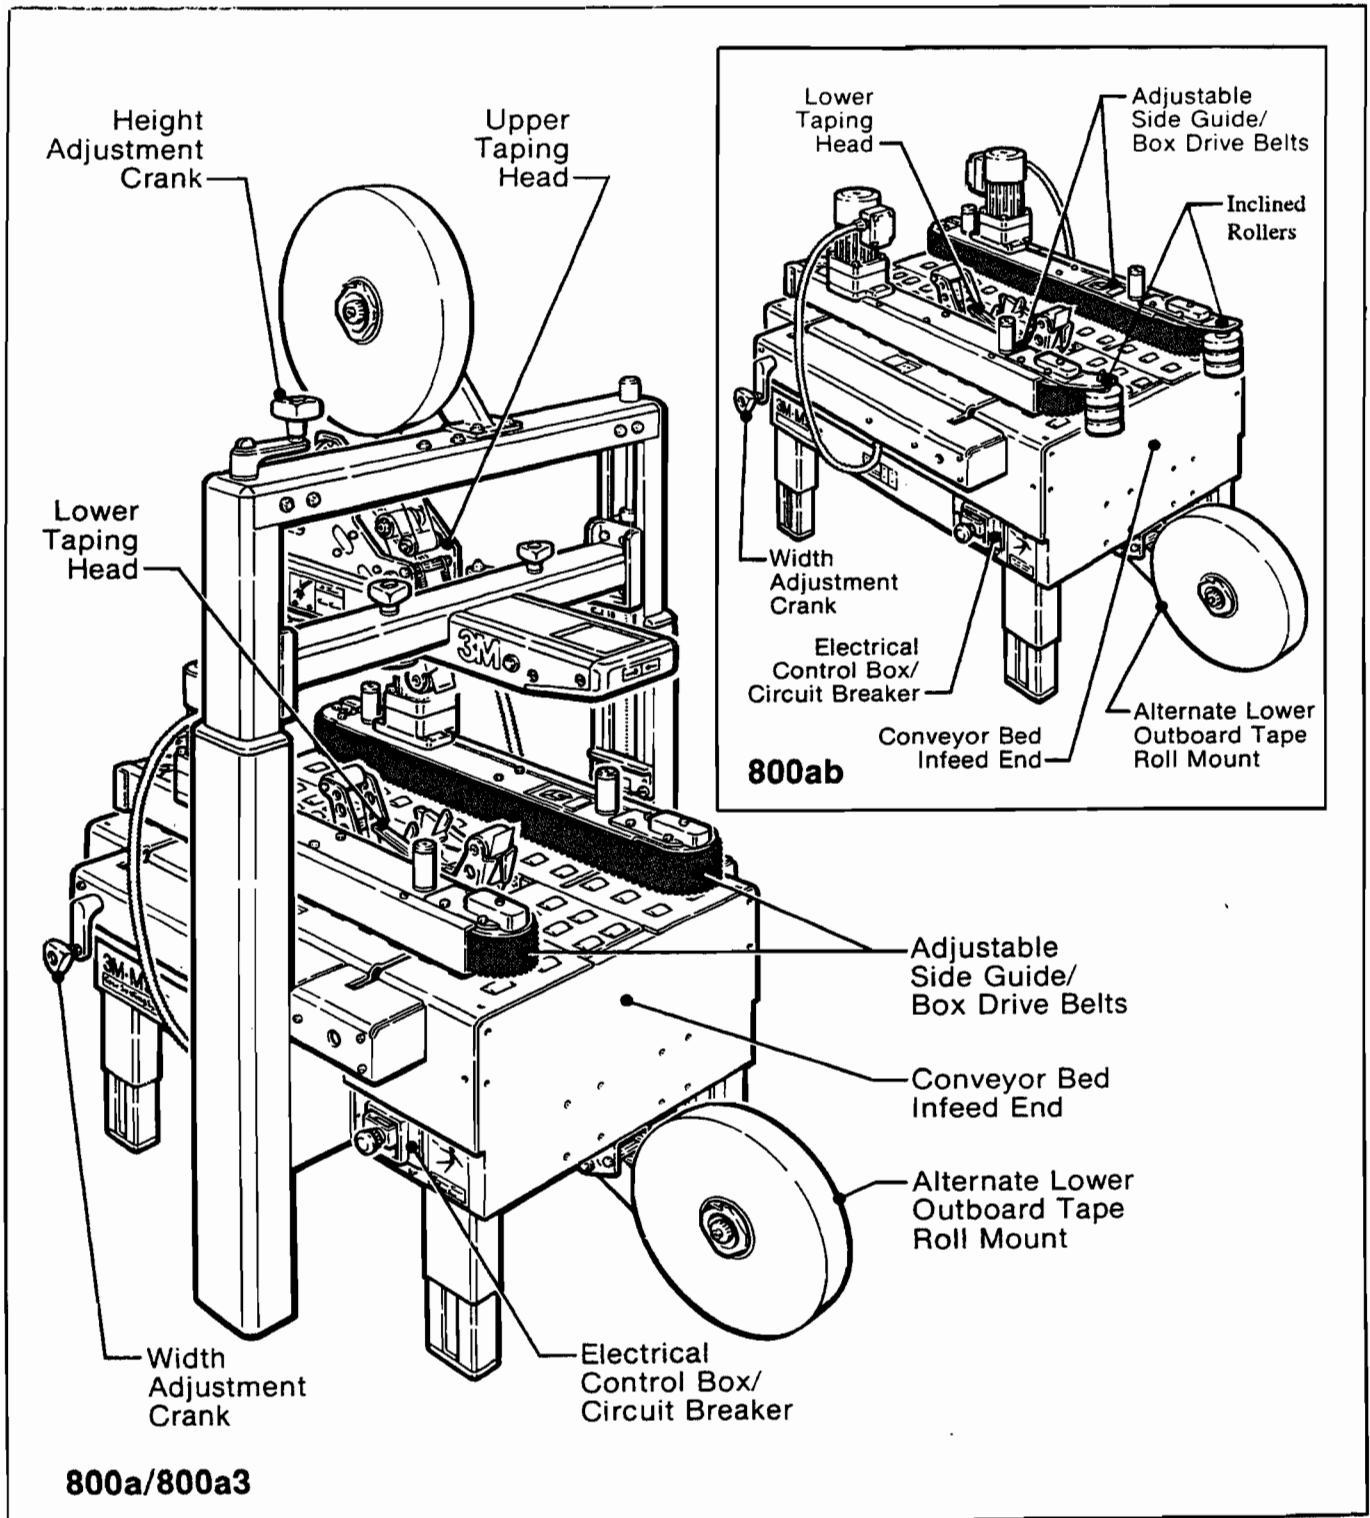

Figure 2-1 - Set-Up Instructions - Case Sealer Components - Left Front View
7. **For 800ab only** - Install inclined rollers onto infeed end on drive assemblies, shown in Figure 2-1. Remove four bolts, position inclined roller assembly, replace four bolts.
The electrical control box, shown in Figure 2-1, contains the "On-Off" switch with pre-set circuit breaker and can be located on either side of the main conveyor for customer operating convenience. An 8 foot [2,4 m] standard **three conductor power cord with plug** is provided at the back of the electrical control box for **115 Volt, 60 Hz** electrical service. **The receptacle providing this service shall be properly grounded.** Before the power cord is plugged into **115 Volt, 60 Hz** outlet, make sure the switch is "Off" and that all **packaging materials and tools** are removed from the machine.